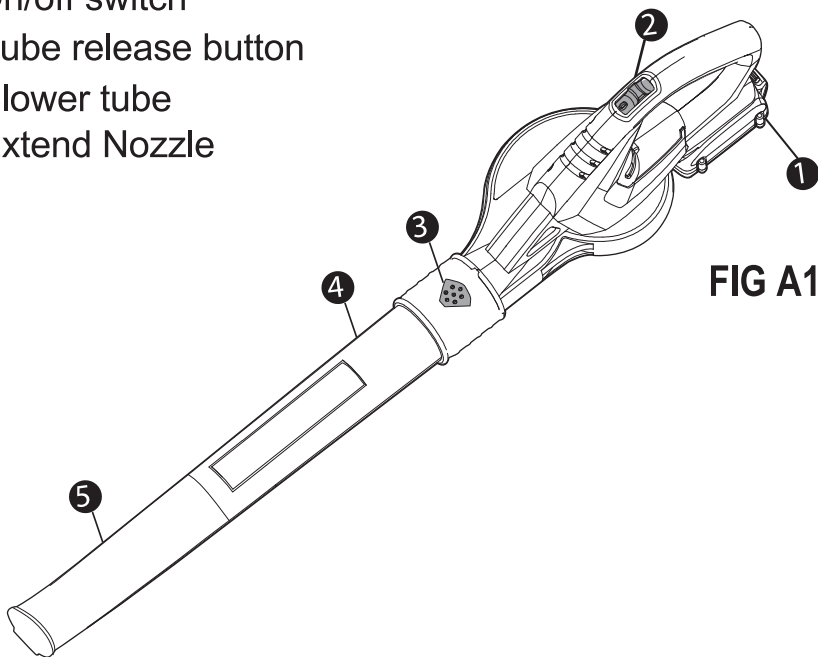

FIG A1
Before assembling the Blower Tube(4), be sure the on/off switch (2) is in "O" Off position. Fit the Blower Tube to the motor housing as shown in Fig A1. Check if the Blower Tube is firmly secured.